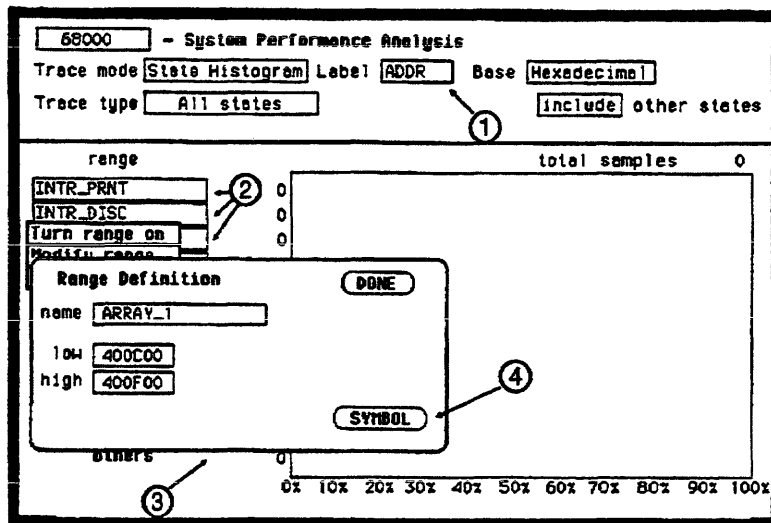

Figure 5-2a. HP 1650A State Histogram Display.
To select a label to monitor, select the "label" field in the State Histogram display (item 1 in figure 5-2a and 5-2b). In the pop-up, you will see a list of all the labels defined in the State Format Specification. From this list, choose the label you want to monitor.
To define a range on the specified label, select one of the 11 range fields (item 2 in figure 5-2a and 5-2b). The pop-up gives you the choice of "Turn range on," "Modify range," or "Turn range off."
Select "Modify range" and you will see another pop-up called "Range Definition" (item 3 in figure 5-2a and 5-2b). This pop-up has fields where you should enter the low and high value and a name for the range.
In the HP 1650A/1651A or HP 1650B/1651B, if you select the "SYMBOL" field in the Range Definition pop-up (item 4 in figure 5-2a), you can set the lower and upper values of the range to any defined range symbol. You can use the SYMBOL field independent of which base you have selected.